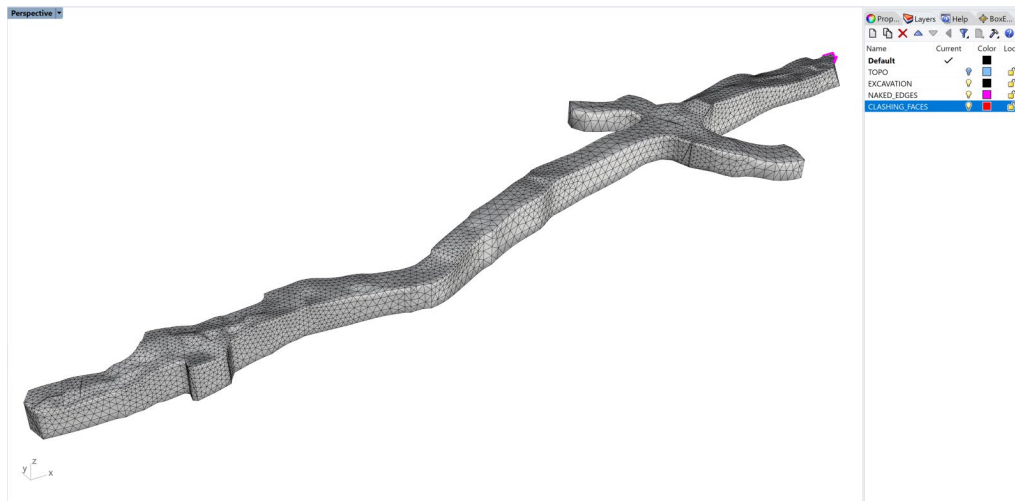

Figure 70: Remeshed and fixed drift mesh. (The grid and topographic mesh are not shown.)
14. Select the drift mesh only and fix the remaining issues by calling **_GHeal** → *AutomaticHeal* → *IssuesToFix*, set *RemoveProtrusions* = *Yes* and all others to *No*, press **Enter**, and keep *Parameters* = *Automatic*. After fixing the drift mesh, the only remaining problems are a few faces that stick out from the front part of the drift as shown by the pink outlines in Figure 70. They will be resolved later when finalizing model construction.